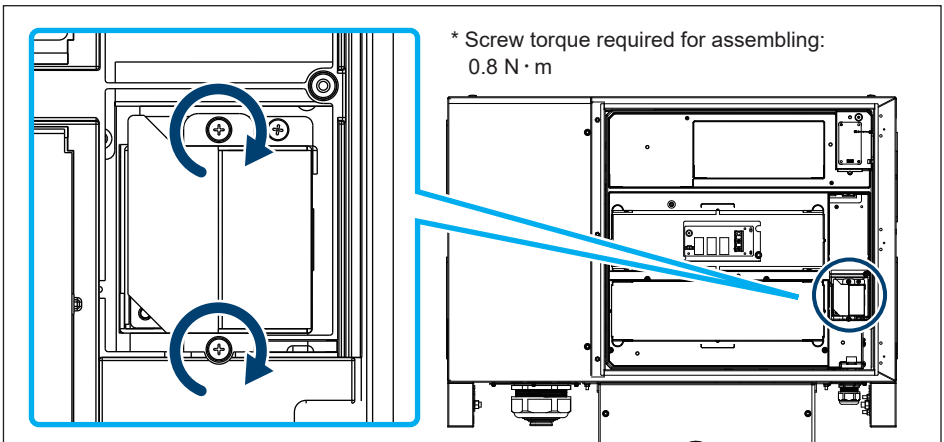
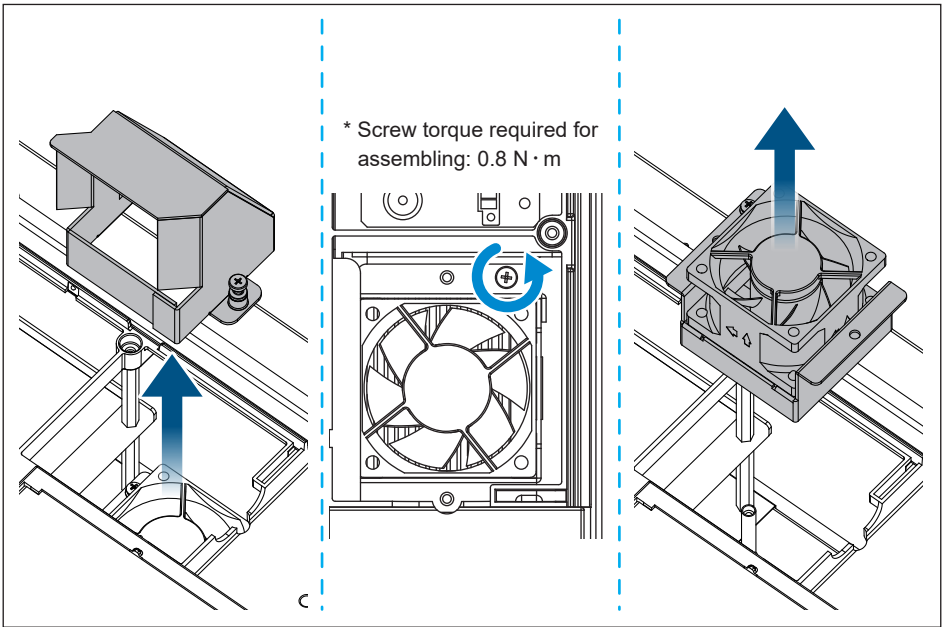

Figure 5-13: Internal fan 1 location
Figure 5-14: Take off the internal fan 1
- (1) Remove the shield cover.
- (2) Loosen two screws shown in **Figure 5-13** and remove the fan cabinet.
- (3) Disconnect the power connector.
- (4) Lift the entire fan assembly from the LED side (right) compartment. (shown in **Figure 5-14**)